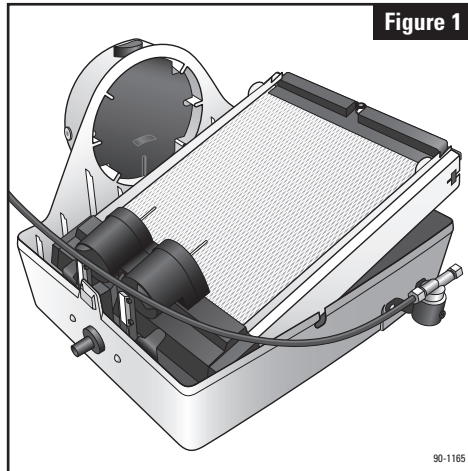
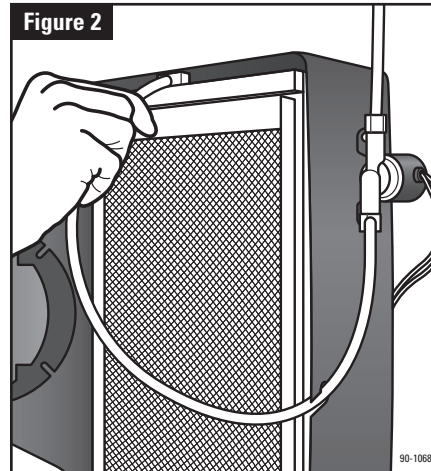

Figure 1
Figure 2
1. Press top & bottom tabs to remove cover (1). Pull feed tube (3) out of distribution tray (4). Remove Water Panel® Evaporator assembly. See Figure 1.
2. Humidifier is supplied with bypass duct connection on left. For right side bypass, swap location of water level sensor assembly (9) and cap (10).
4. Place humidifier base (2) in opening and secure with 6 screws in openings provided.
6. Insert Water Panel Evaporator assembly into base. Make sure bottom of scale control insert (6) is seated in water level sensor assembly (9). Snap top of evaporator assembly into base. Insert feed tube into distribution tray. See Figure 2. Make sure float cover (14) is snapped into place and that floats (13) move freely up and down. Rotate nameplate (11) if necessary, so it is right side up. Place point bypass damper handle (8) to "WINTER" (open) for heating season and "SUMMER" for cooling season.